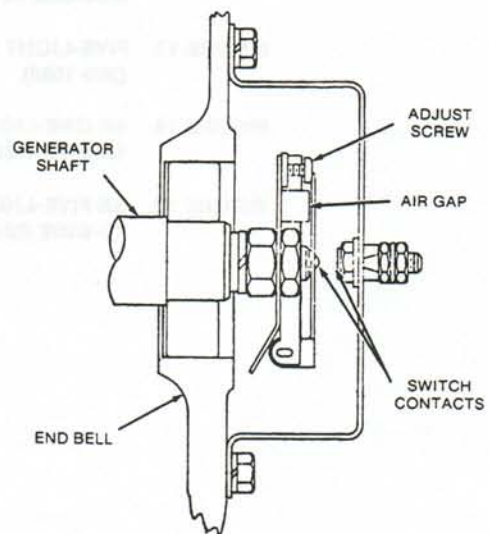

FIGURE 9. OVERSPEED SENSOR, OVERSPEED SWITCH
1. Manually rotate ring gear so one tooth is centered under sensor mounting hole, Figure 9.
The overspeed switch is set so contacts close at 2200 to 2250 rpm. If necessary, the speed range can be corrected by turning the adjusting screw, thereby changing the magnetic air gap (see Figure 9). The air gap must not be less than 0.005 inch (0.13 mm).